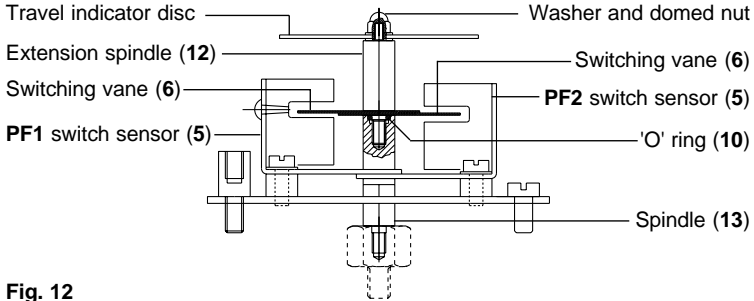

Fig. 12
2.3.13 Fit switching vanes (6) to the spindle (13) and ensure 'O' ring (10) is correctly located within the end of the spindle. Now fit the extension spindle (12) and finger tighten to secure in position.
It is essential that the switching vanes are correctly located within the slots of the PF1 and PF2 switches. The top vane should be positioned within PF1 switch sensor (5) and the bottom vane positioned within the PF2 switch sensor (5) to ensure they are positioned evenly within the slots (refer to Fig. 12).